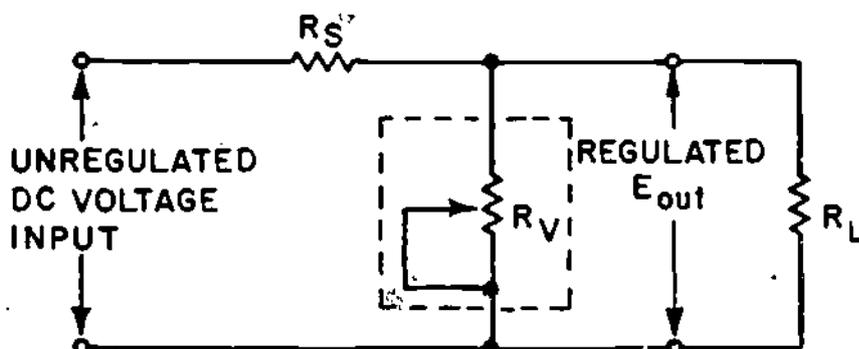

FIGURE 4
⑥ THIS IS A TEST FRAME. AFTER YOU ANSWER THE QUESTION COMPARE YOUR ANSWER WITH THE ONE GIVEN ON THE TOP OF THE FOLLOWING PAGE.
9. The diagram in Figure 4 represents a shunt type voltage regulator. Notice that variable resistor R_V is in parallel with the load resistance R_L and that fixed resistor R_S is in series with the load resistance. You already know the voltage drop across a fixed resistor remains constant unless there is a variation, increase or decrease, in the current through it.
10. Again refer to the schematic shown in Figure 4 and consider how the voltage regulator operates to compensate for changes in input voltages. You know, of course, that the input voltage may vary and that any variation must be compensated for by the regulating device. Consider an increase in input voltage. When this happens the resistance of R_v automatically decreases to maintain the correct voltage division. If you have concluded that the regulator operates in the opposite way to compensate for a decrease in input voltage you are correct.